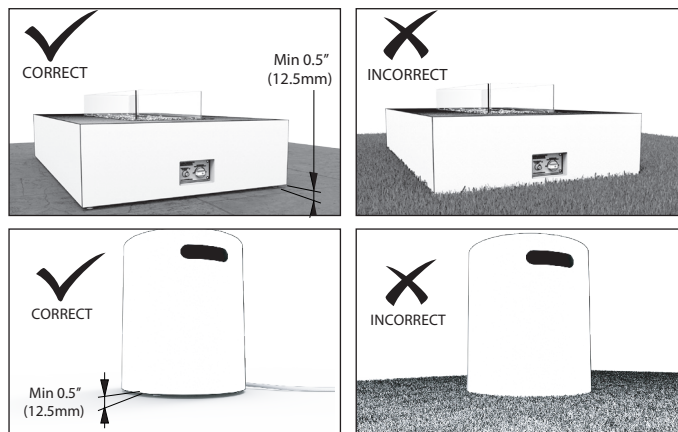

Figure 1
1. Locate the appliance on hard, flat surface that extends the full length and width of the appliance. The appliance and the LP tank cover can be placed on combustible surface (such as wood deck) or on non-combustible material (such as concrete). Ensure all clearances to the sides and clearances above the appliance are observed at all times (see figures 1 and 2).
3. Do not place the appliance over grass, artificial turf, carpet or any uneven surface, as this will block the airflow underneath the appliance. See figure 1.
4. Follow the same instructions above for the LP tank cover (if purchased). See figure 1.